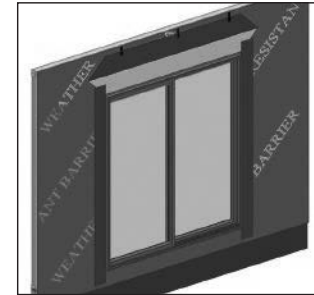

FIG. 27
- Tape the cut seams of the WRB. (Fig. 27)